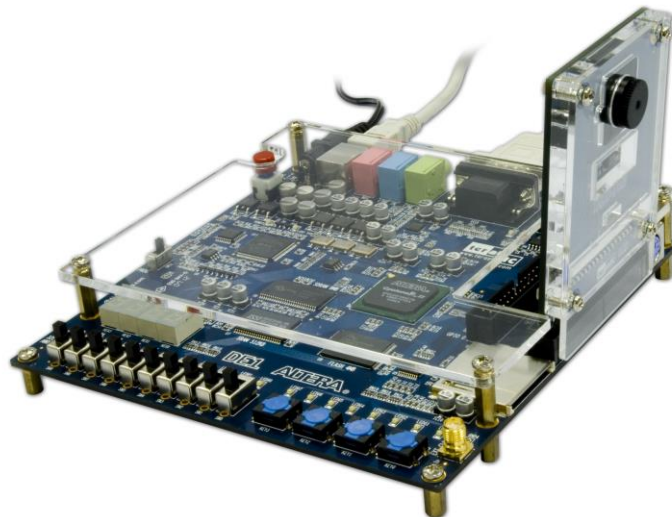

Figure 1-6 Connect the D5M to DE1 board's expansion port (outermost port).
5. Connect the D5M to your DE1 board as shown in **Figure 1-6**.